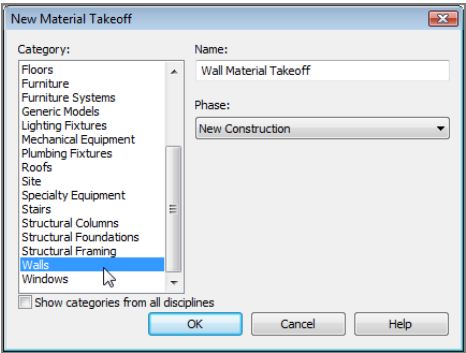

FIGURE 11.26: Select Walls in the New Material Takeoff dialog box.
2. In the New Material Takeoff dialog box, select Walls, as shown in Figure 11.26.